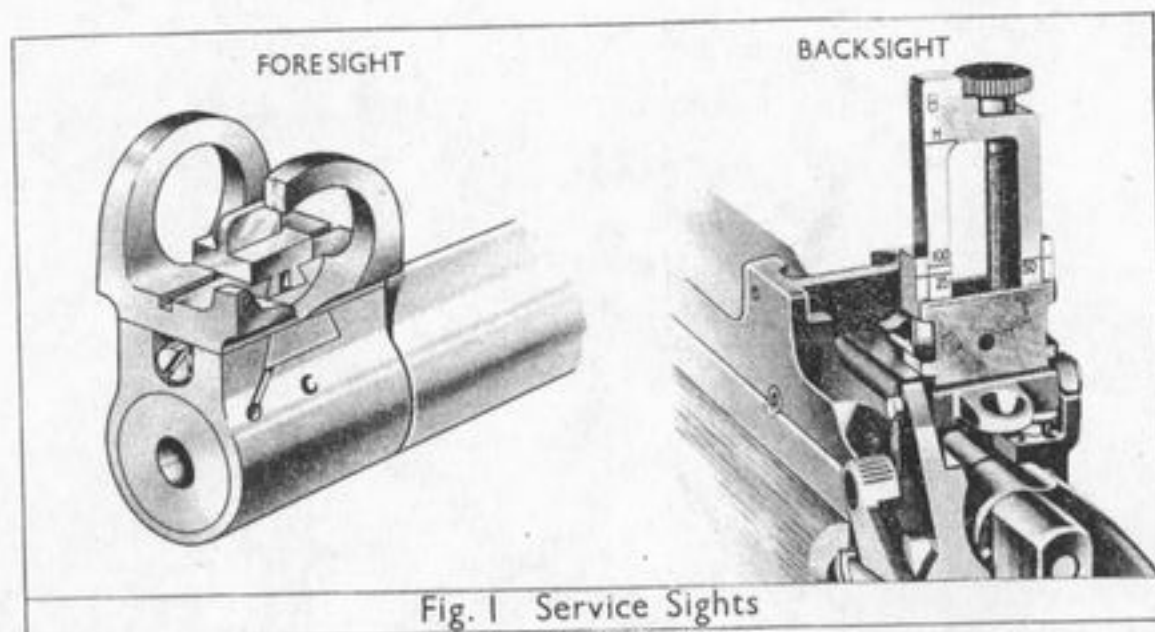

Fig. 1 Service Sights
10. Service Sights (Fig.1). - The fore and backsights issued with the rifle are similar to those of the No.4 rifle, except that the graduations are for ranges of 25, 50 and 100 yards, with an additional harmonization (H) position provided for landscape target practices.